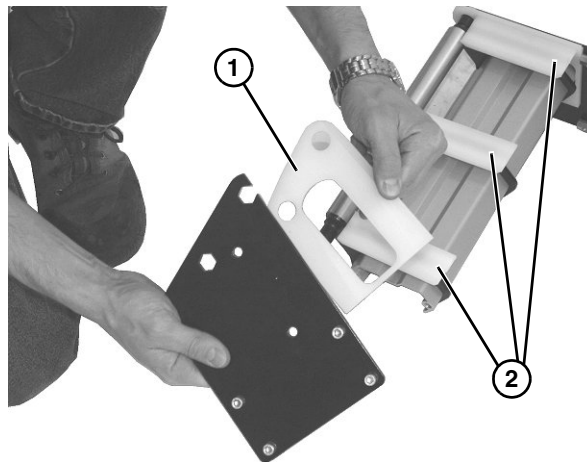

Figure 52
- Check idler terminal assembly on each side (**Figure 52, item 1**) for wear. If worn, replace.
- Remove and replace wear guides (**Figure 52, item 2**) if worn. When replacing, secure onto pins on each support plate.